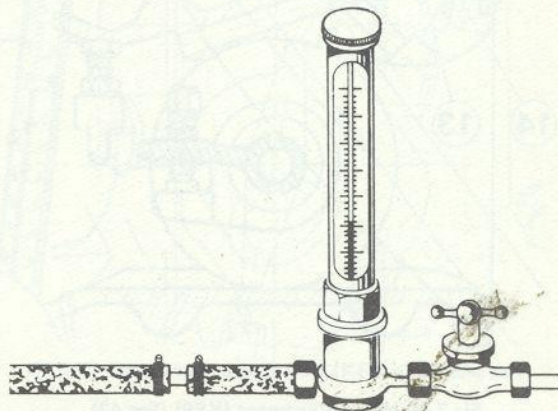

Fig. 3.46 Tap and thermometer arrangement used for enrichment adjustments (Sec 42)
2 In order to monitor and regulate the thermostat temperature, Peugeot garages use the thermometer and tap arrangement shown in Fig. 3.46. This is connected in series with the hose from the thermostat housing to the water pump. It should not be beyond the ingenuity of a resourceful owner to make up an equivalent.
1 This adjustment must be carried out with the engine at a temperature of between 75° and 76°C (167-176°F). To check the temperature, Peugeot garages use the thermometer and tap arrangement shown in Fig. 3.46 connected in series with the water return hose from the thermostat - this is the hose connected to outlet (K) (Fig. 3.35)